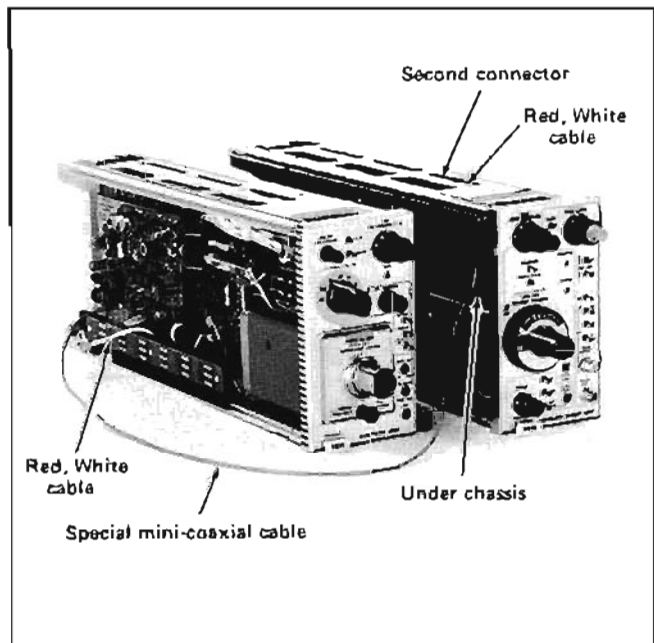

Fig. 6-2. Special connections for calibration.
a. Assemble the extender, the 7S11 and 7T11 at the 7504 Oscilloscope. Remove the mini-coaxial connector at the top of the 7T11 (see Fig. 6-2) and insert the special mini-coaxial cable through the chassis (so the 7T11 can be installed in the oscilloscope) and connect it to the connector. Place the disconnected cable within the chassis and tape the connector to avoid contact with components. Remove the mini-coaxial connector on the 7S11 left side (Inter-Channel Control circuit board) and connect the special cable. This completes the oscillator control and strobe drive circuits. The 7S11 INT TRIG lamp will not be on when the 7T11 is at Int trigger.